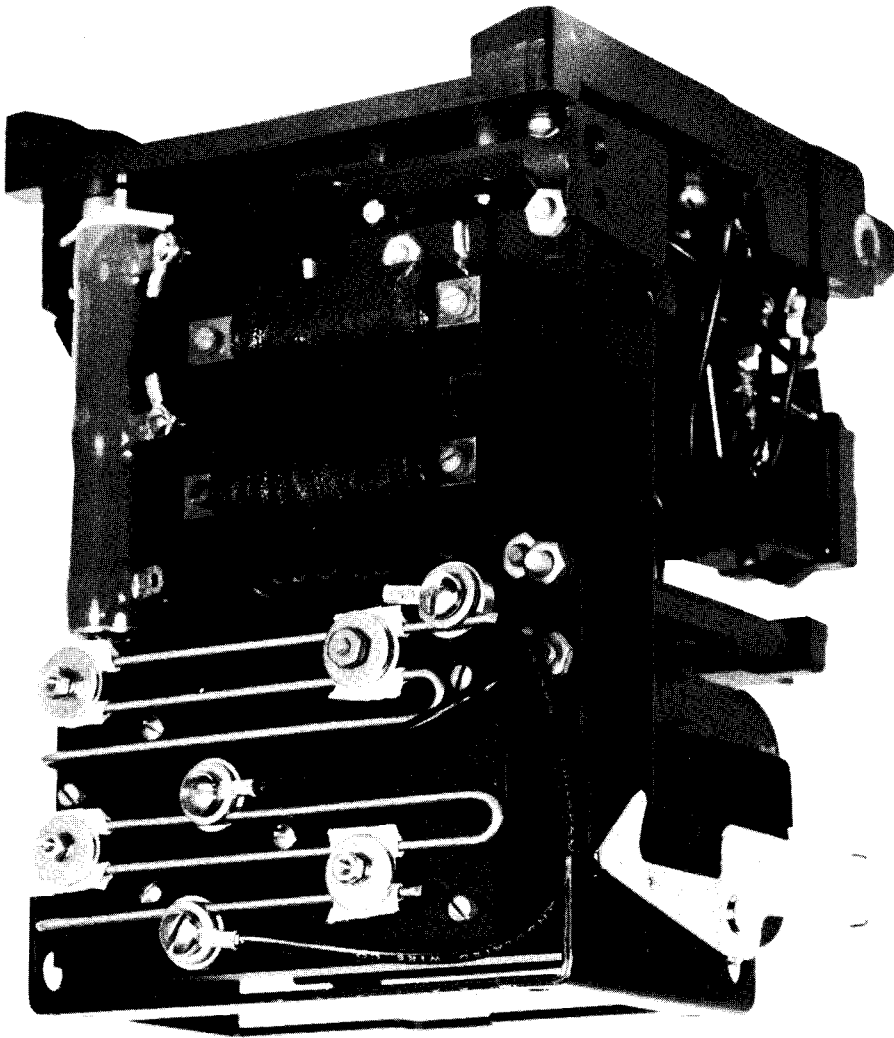

Fig. 2 Type PQQ Relay in FT-21 case (Rear View).
the top filter resistor screw connection (refer to Fig. 2). Adjust this connection until the voltmeter reads 1.73 times the reading obtained in part C.
* To adjust the filter resistor tap for no response to zero sequence currents, remove tap screw from POQ unit. Pass 10 amperes into terminal 7, 5 amperes into terminal 5 and out terminal 4 per Fig. 6. Connect a voltmeter between the top and bottom filter resistor connection (Fig. 2). Adjust the middle connection until the voltmeter reads 2 minimum.